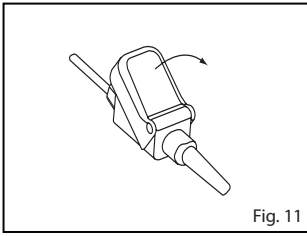

Fig. 11
1. Refer to **Fig. 11**. Lift the protective cover to gain access to the sensor connector.